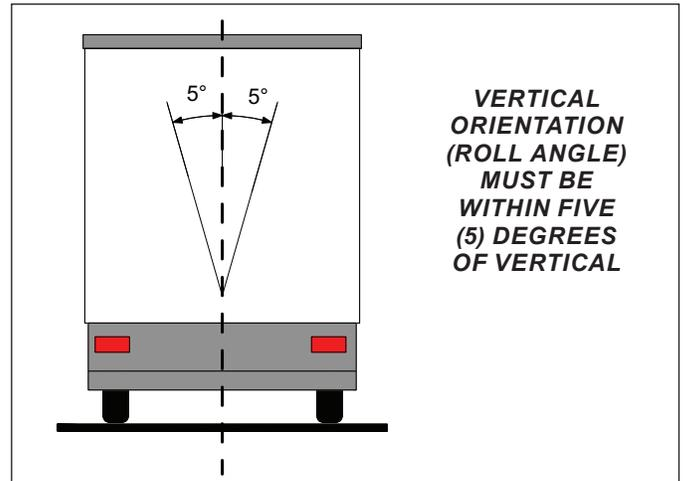

Figure 16 – Installation on the Trailer (Vertical)
1. The TABS-6 Advanced MC module should be installed with the following considerations (See Figures 16 through 18):